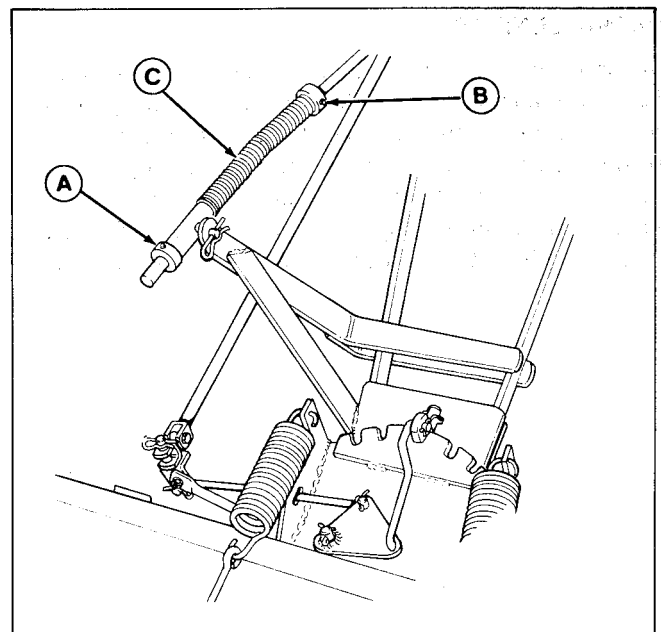

Figure 10. Lift Rod Adjustment (46" Blade Shown)
For initial setting, place front set collar (A, figure 10) one inch from rod guide with blade fully lowered. Place rear set collar (B) against spring (C). Tighten the setscrews in the two set collars. To adjust, perform the following: